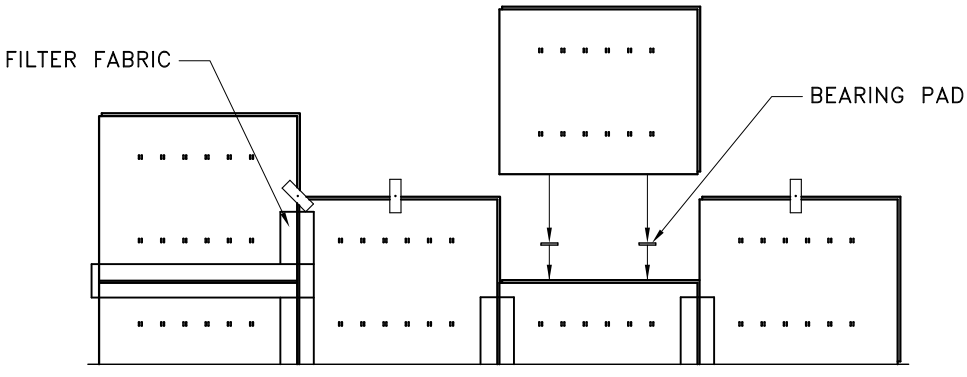

FIGURE 5
A) GLUE THE 3/4" PREFORMED BEARING PADS ON TOP OF THE SMALLER PANELS AND THEN PLACE THE SECOND ROW OF PANELS. (FIG. 5)
C) PLACE FILTER CLOTH ON BACK FACE OF PANELS. (FIG. 5)